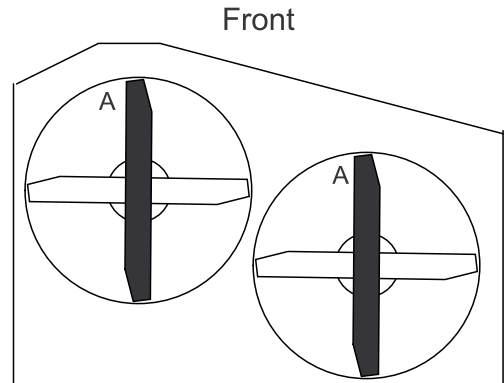

Figure 50
3. Rotate the blades until the ends face forward and backward. Measure from a level surface to the cutting edge, position A, of the blades (Figure 50).